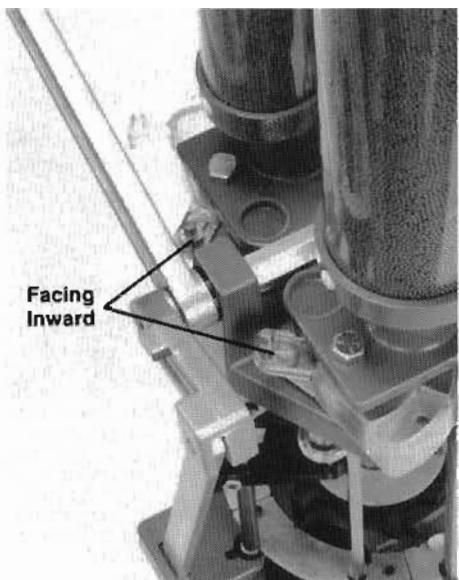

Fig. 74
**Figure 74** - Before you begin loading, the shot and powder charge bars need to be in the correct starting position. Both charge bars should be facing inwards towards the center of the Apex. This properly aligns the shell detect.